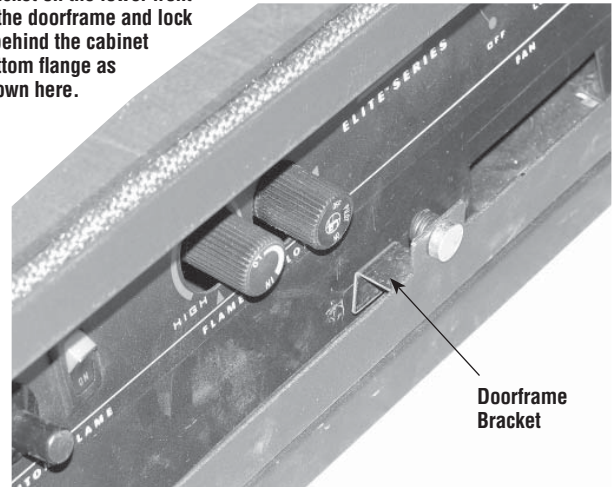

Figure 7
- Place the doorframe bracket in the locked position as shown in *Figure 7*.